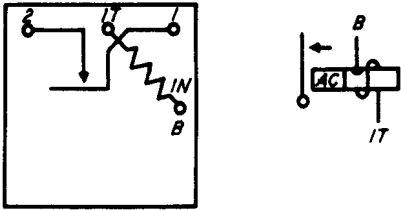

Fig. 35 – Winding and Spring Terminal Arrangement as Viewed From the Rear (terminal side) — 186-Type Relay
2.46 The spring operated by the armature stud is numbered 1 and the front contact is numbered 2 as shown in Fig. 35. The top winding terminal is designated 1T and the bottom winding terminal is designated B.